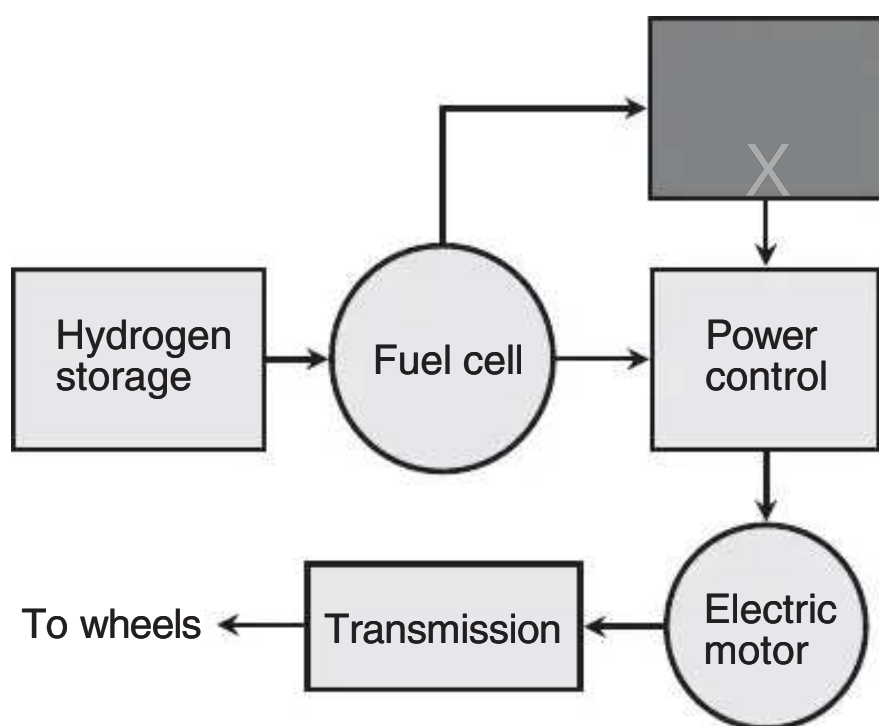

Figure Exam-9 Diagram for question 98.
- 98. Figure Exam-9 is a simplified functional block diagram of a hydrogen fuel-cell vehicle. What is represented by the box marked X?